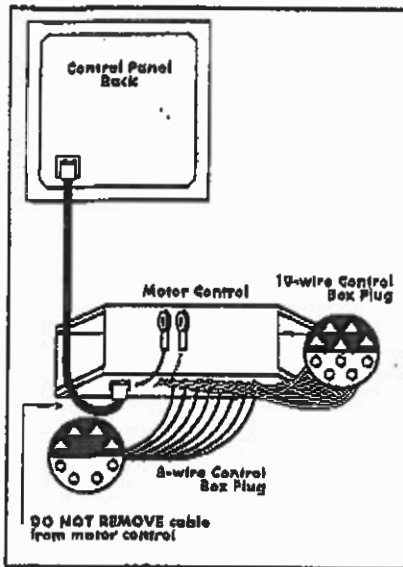

Figure 2a
1. No function indicates that the panel is not receiving power. Power is transmitted to the control panel by the telephone style cable. Check the cable connections at the panel and at the motor control, which is located at the "Level Best", pump motor. Verify that the cable is not damaged and is fully inserted into connectors. Do not remove the cable from the motor control. (fig. 2a)